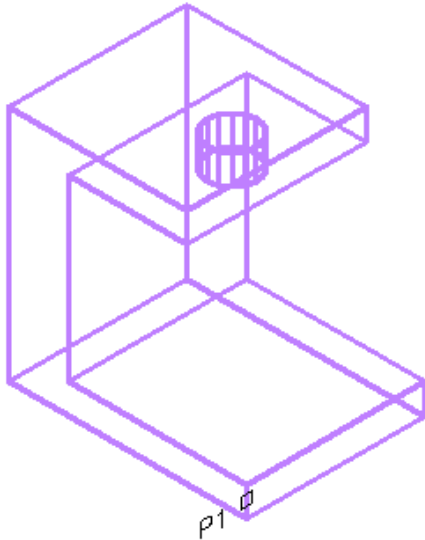

Figure Step 12A
Step 12 Enter the CHAMFEREDGE command, as shown below, to chamfer the bottom corner. (Figure Step 12A and 12B)